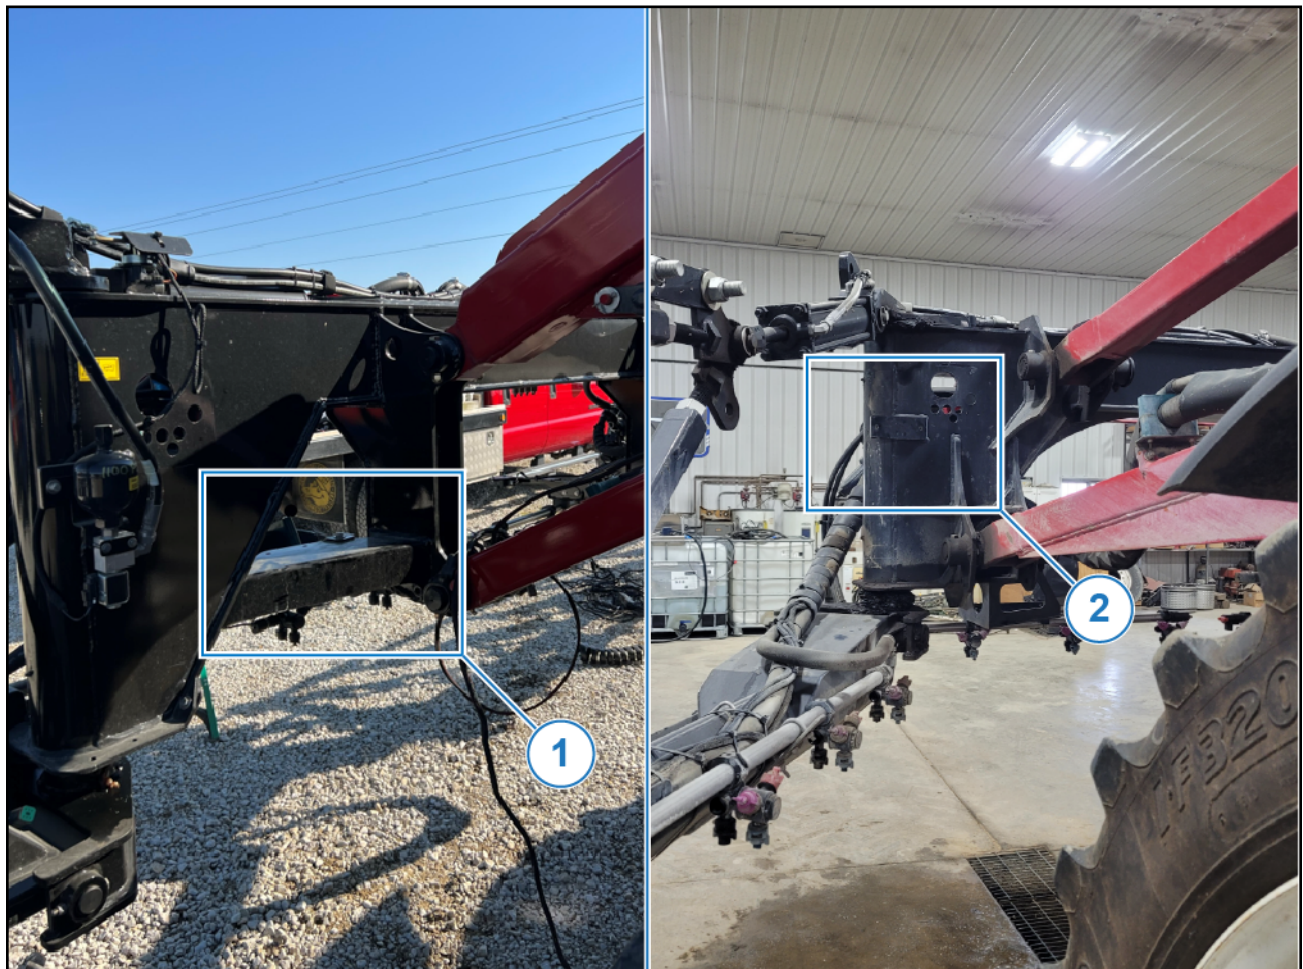

Figure 3: Envelop Hub Mounting Location
6. Locate appropriate Envelop Hub mounting location for your machine. New Holland machines use one of two boom bracket configurations. The Envelop Hub can be mounted face-up, horizontally (Figure 3, Item 1) or vertically, facing rear of machine (Figure 3, Item 2).